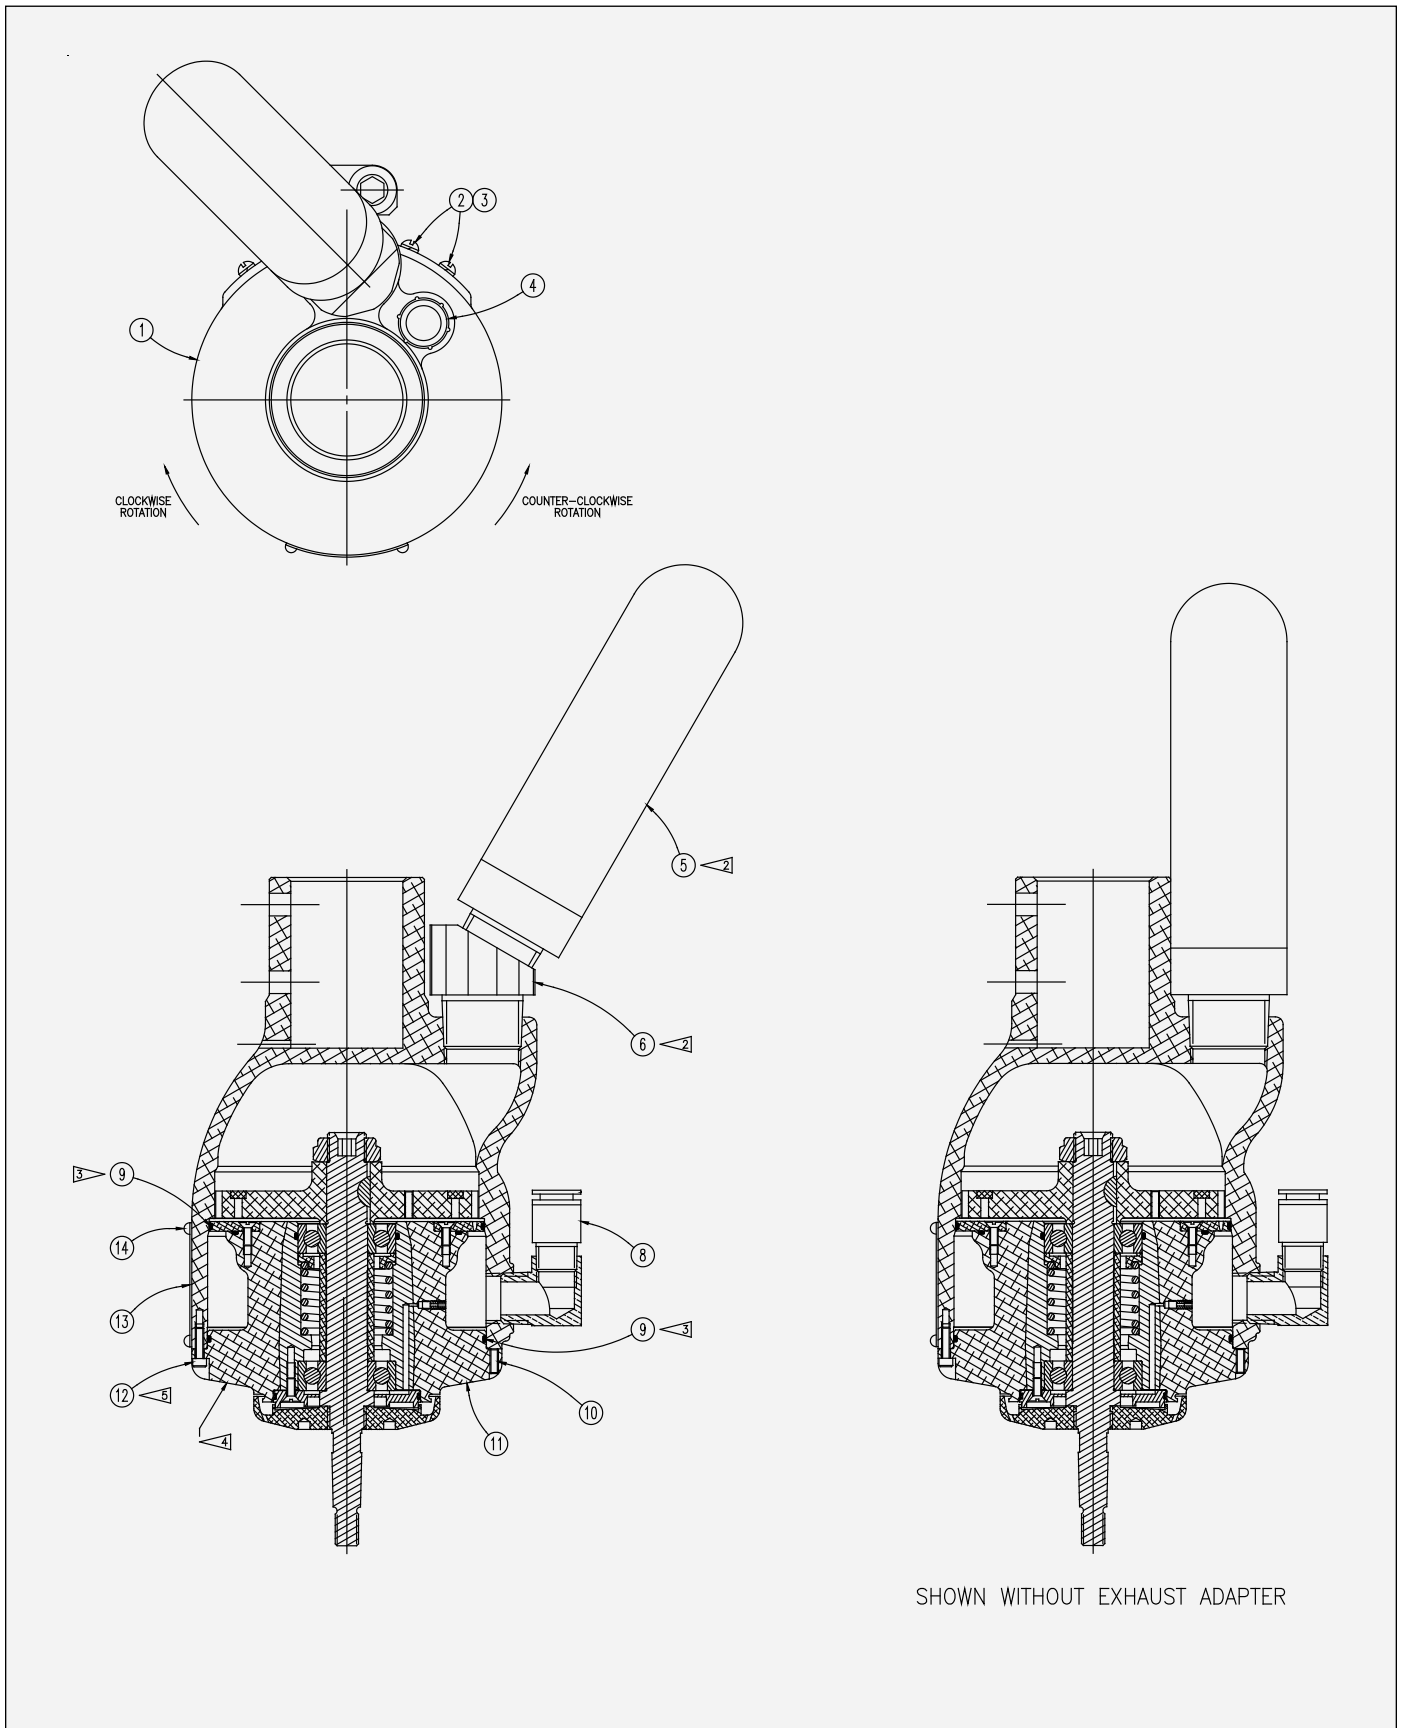

Figure 18: 78175-XX Turbodisk Air Turbine Assembly
78175-XX TURBODISK AIR TURBINE ASSEMBLY - PARTS LIST (Figure 18)
TABLE "A" (Figure 18)
**** PARTS LIST BULLET DEFINITIONS (Figure 18)**